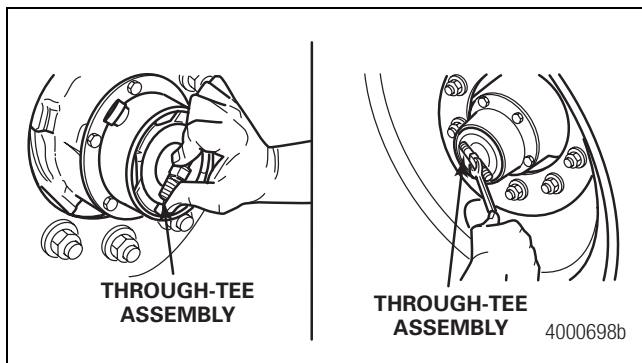

Figure 2.47
4. Hand-tighten the through-tee assembly. Tighten the tee with a torque wrench set at 45 lb-in (5 N•m). Check alignment of the tee air fittings to the tire valve stems. If aligned, go to Step 6. If not aligned, retighten the tee with a torque wrench set to 55 lb-in (6 N•m) and tighten until aligned. Do not exceed 55 lb-in (6 N•m). If still not aligned, go to Step 5. Figure 2.47.